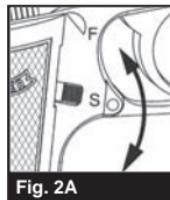

Fig. 2A
Safety - See Fig. 2A and 2B
- Push the safety down until it points at the "S" and covers the red dot. (**Fig. 2A**) The safety is not "ON SAFE" unless it is pushed all the way down and the RED dot is NOT showing.